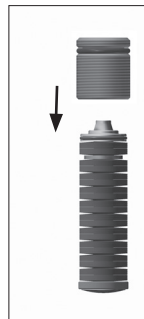

fig. 19
1. Stick the screw unit onto the spring unit. The integrated O-ring fixes the spring unit so that it does not tilt during walking (fig. 19).